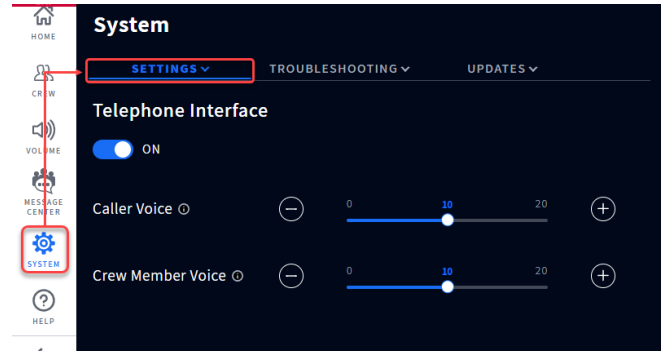

Fig. 12.4
2. Log in to the NEXEO base station and go to **SYS-TEM>SETTINGS**. Select Telephone Interface from the drop-down list. See Fig. 12.4. Toggle the OFF switch ON. The recommended default values are set to 10. If necessary, the volume levels can be adjusted using the sliders.